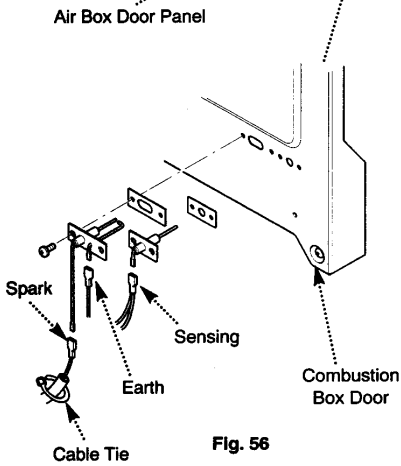

Fig. 56
13.8 Spark and Sensing Electrodes (Fig. 56)